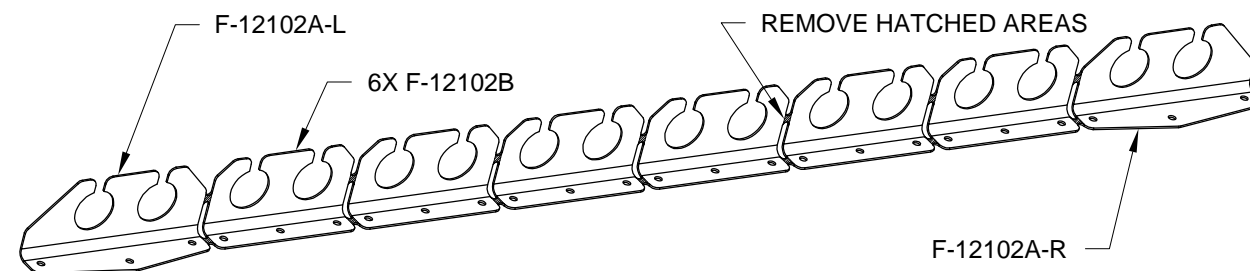

FIGURE 1: SEPARATING F-12102AB
Step 1: Separate F-12102AB by removing the hatched areas shown in Figure 1.